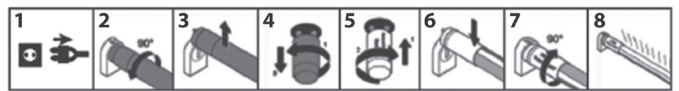

Fig. 1
- **In the event of a light fixture with a choke coil**, to install the LED tube it is sufficient to simply remove the standard fluorescent light tube, remove the light tube starter and in its place, simply install the supplied "LED driver" and then just install the LED tube (this form of installation can be performed by any user themselves without electrical qualifications), see fig. 1.
- On these types of light fixtures, it is possible to directly replace a standard fluorescent light tube with an LED tube. Simply remove the fluorescent tube starter with the electrical power disconnected and replace it with the supplied „LED driver“ according to the steps described in steps 1 to 8 in fig. 1. This replacement may be performed by a person without the respective electrical qualifications.
#### Description of steps 1-8 in fig. 1